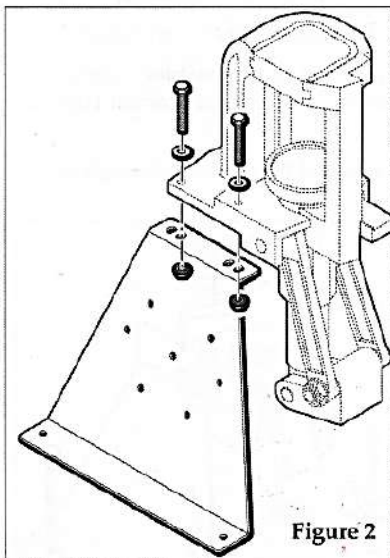

Figure 2
- Step 1 Install a Machine Mounting Bracket on the left side of the RL550B/AT500 Frame using two short bolts, two washers and two lock nuts as shown in Figure 2.